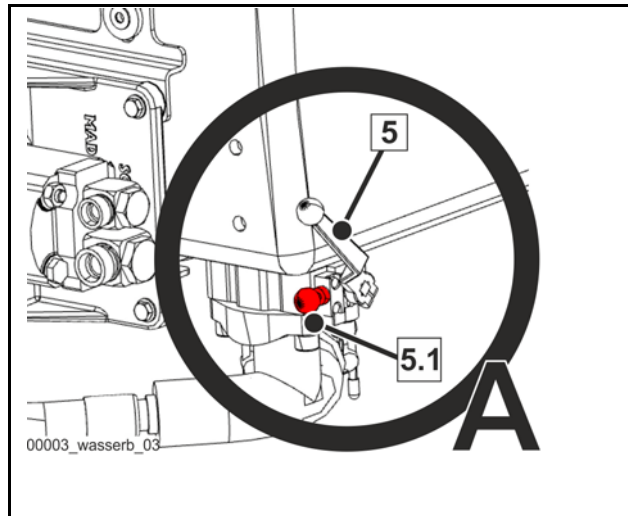

Fig. 574
- Loosen the fuse (5.1) (**Fig. 574**) on the water case and lock the connection to the water case by switching the ball valve (5) (**Fig. 574**).
- Before restarting the HPC, do not forget to switch the ball valve (5) (**Fig. 574**) on the water case to the “Operating position”.